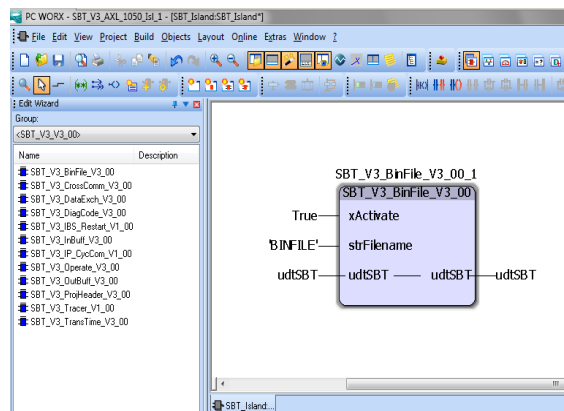

Figure 3-37 “SBT_V3_BinFile_V3_00” function block
- Connect the function block as shown in Figure 3-37.